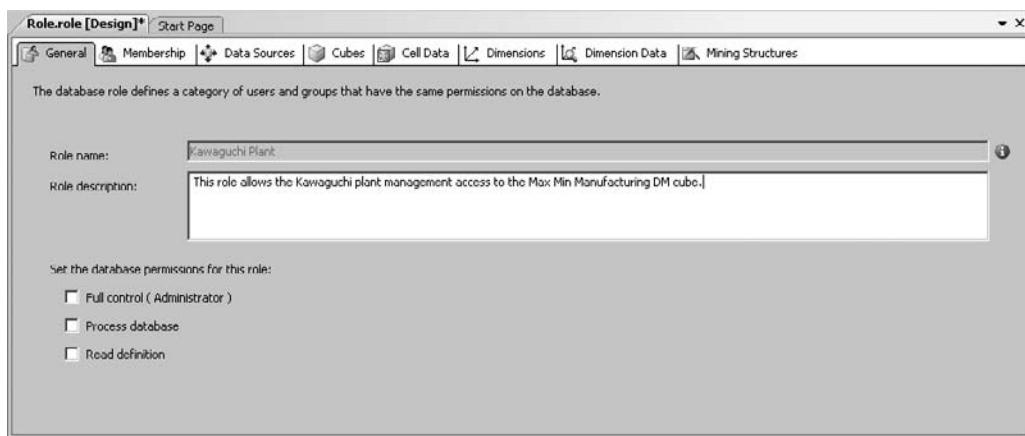

Figure 11-20 The General page of the Role Design tab
6. The items under Set the database permissions for this role determine whether members of this role can perform these administrative tasks or read the definition of the cube. Do not check any of these items for this role. The General page of the Role Design tab is shown in Figure 11-20.